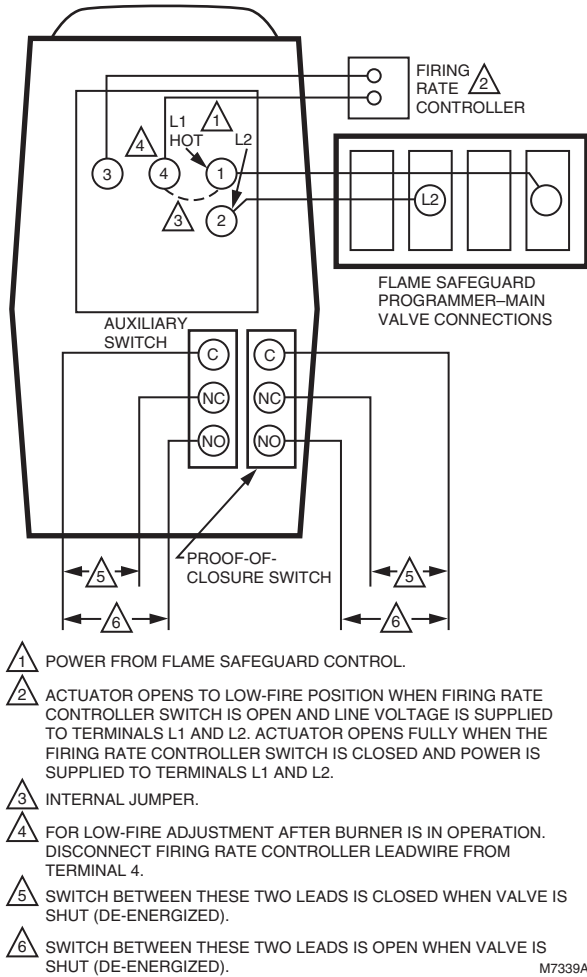
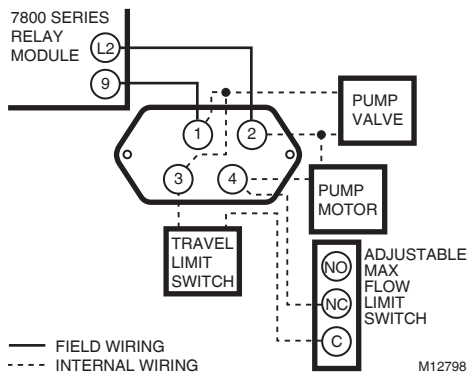

Fig. 4. Typical hookup for V4062 Actuator.
Fig. 5. Connecting Max Flow Limit Switch to the actuator.
Connect the power from the flame safeguard control to terminals 1 and 2 on the V4062 terminal strip, and connect the firing rate controller to terminals 3 and 4. Refer to Fig. 4 for typical connection. Fig. 5 shows the wiring for connecting the Max Flow Limit Switch to the actuator. For other typical system hookups, refer to the instructions packed with the device used to control the valve. When all wiring connections are complete, replace the actuator faceplate.
3. Disconnect the firing rate controller leadwire from terminal 4 on the actuator to keep the valve in the low-fire position (Fig. 4).
5. Loosen the setscrew in the cam (Fig. 5) with the special wrench. Keep the wrench seated in the setscrew. Rotate the cam slightly downward (by moving the wrench toward the actuator base) to open the bleed valve. The actuator will start to close.
Fig. 4 shows the V4062 in a typical flame safeguard control system.